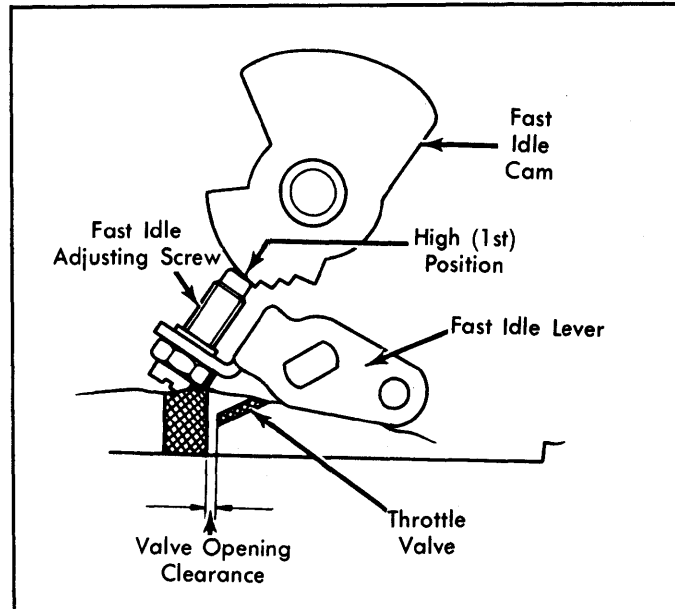

Fig. 2: Throttle Valve Opening Angle Adjustment
1) Close choke valve fully. Place fast idle screw on high (1st) step of fast idle cam. See Fig. 2. Adjust throttle valve opening clearance by turning the adjusting screw clockwise to increase or counterclockwise to decrease the opening clearance.